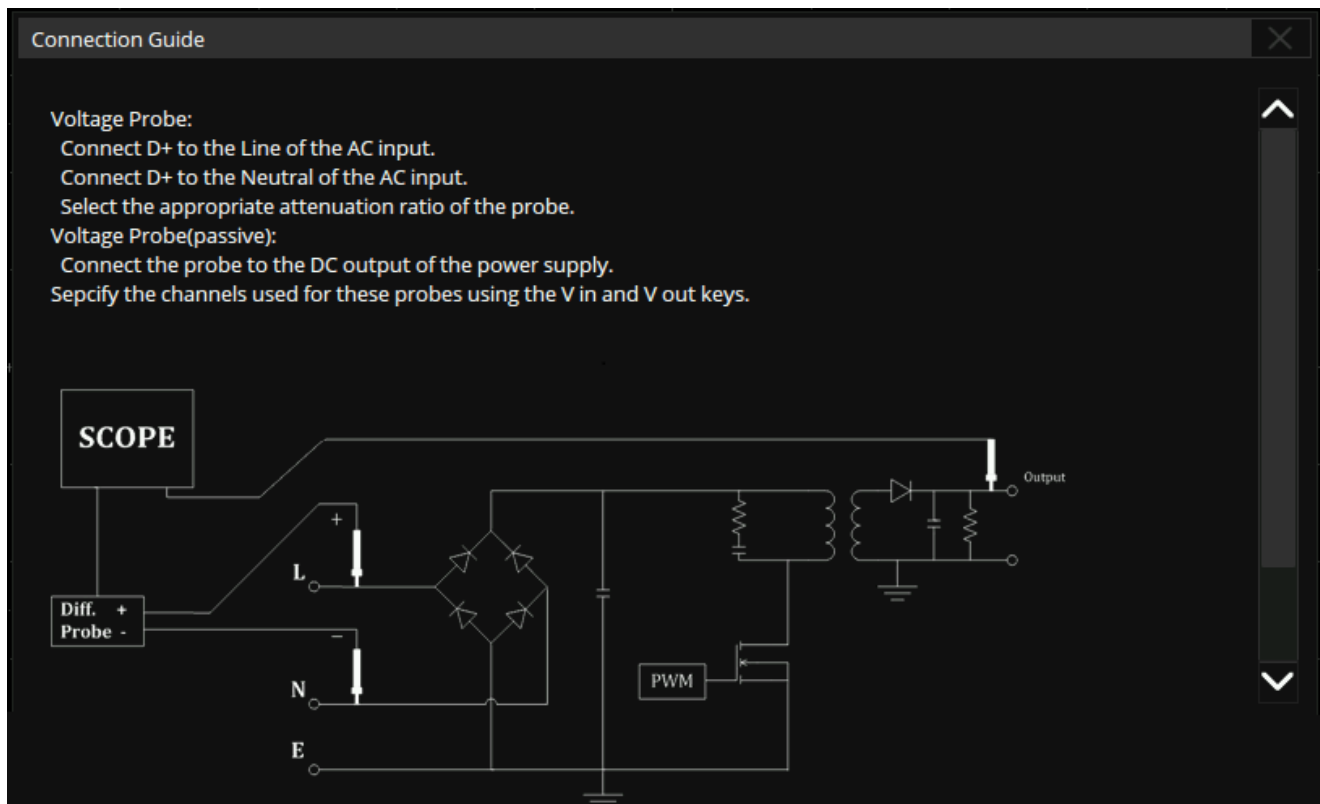

Figure 19.20 Connection Guide
7. Touch **Connection Guide** to display a diagram illustrating the procedure setup. See figure 19.20